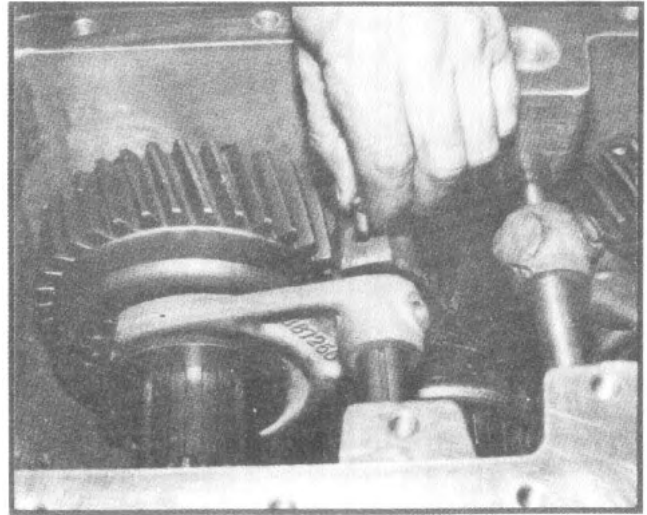

Fig. 30
4. Install a shift fork set screw into each shift fork and align the shift shaft notch with the set screw. Tighten each set screw and secure with lockwire (See fig. 30 and 31).
7. Install shift fork set screw into shift fork and align the shift shaft notch with the set screw. Tighten set screw and secure with lockwire (See fig. 30 and 31). Torque piston locknut to correct torque.